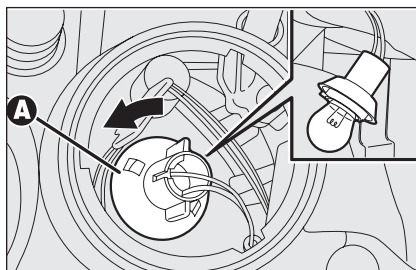

fig. 25
- ☐ turn the bulb holder **A-fig. 25** counterclockwise, remove the bulb and replace it;